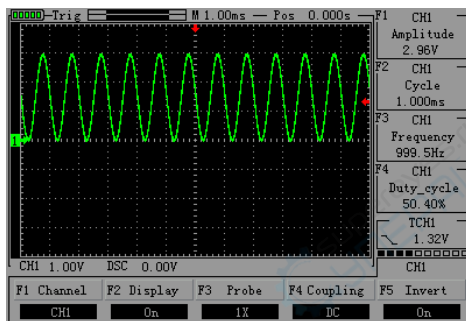

Figure 2-12
- Press the "  " button to change the level of scale, in order to enlarge or reduce waveform. As shown in figure 2-12